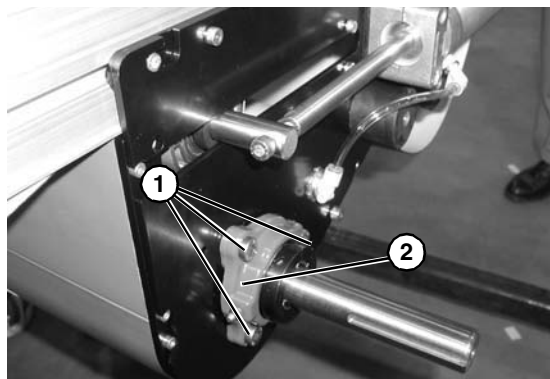

Figure 88
4. Remove the three (3) mounting screws (**Figure 88, item 1**).
5. Remove and replace bearing housing assembly (**Figure 88, item 2**).